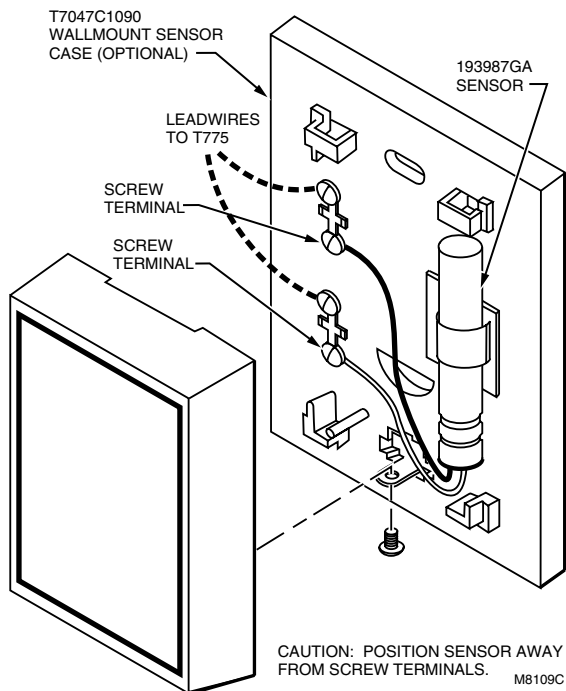
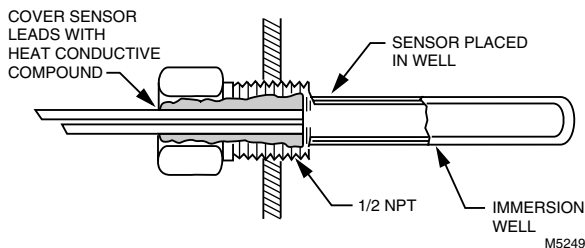

Fig. 3. Sensor mounted on wall.
Fig. 4. Sensor inserted in immersion well.
Mount the sensor on a wall or panel for sensing space temperature (Fig. 3); strap it to a pipe, or insert it into a well (Fig. 4) for hot/cold water sensing; or tape it to a standard cap or bulb holder for duct air sensing. To prevent moisture or condensation entering the sensor through the leadwire holes, mount the sensor with leadwires exiting the bottom of the sensor.
- ① Run wires from T775J through wall.
- ② Mount case to wall with screws provided.
- ③ Connect wires from the T775J to two T terminals on the T7047C Case.
- ④ Cut and strip 193987GA Sensor leads to 3 to 4 inch (76 to 102 mm) length and connect to T terminals in the case.
- ⑤ Position sensor as shown in Fig. 3; assemble cover and tighten cover screws.
Refer to Fig. 4 for locating the appropriate power inputs, remote sensor inputs, relay, modulating output terminals, contact closure input, and sensor selection switch. Access the terminals through standard conduit knockouts (A-C) located around the enclosure perimeter.